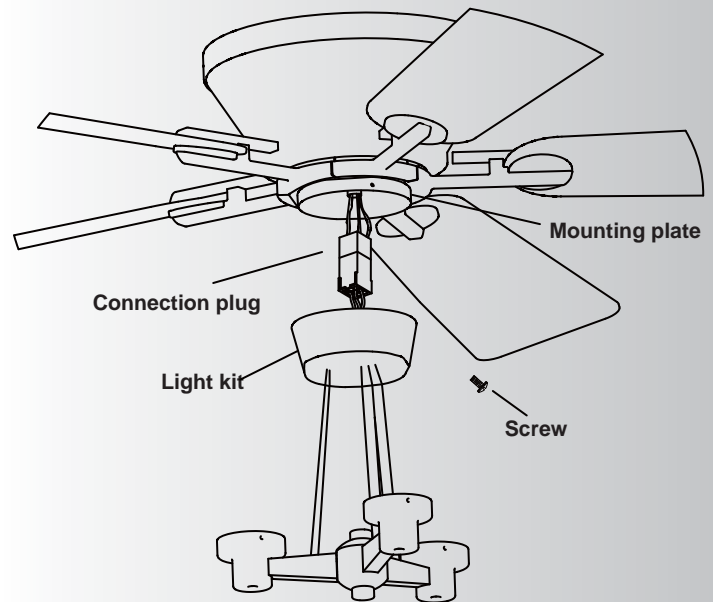

Fig. 20
Step 1. The square plastic wiring connector from the ceiling fan and the light fixture will only fit together one way. Match up the color on the side of the connector, then push them together until the snap engages. (Fig. 20)